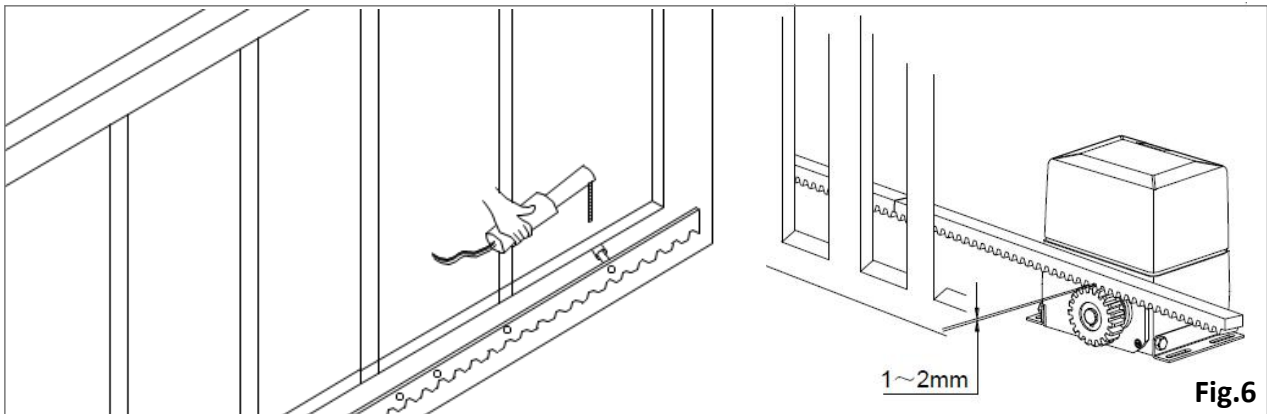

Fig.6
3. Rack Installation (Fig.6)
- d. Once aligned, weld the first mounting nut⑫ onto the gate at the appropriate position.